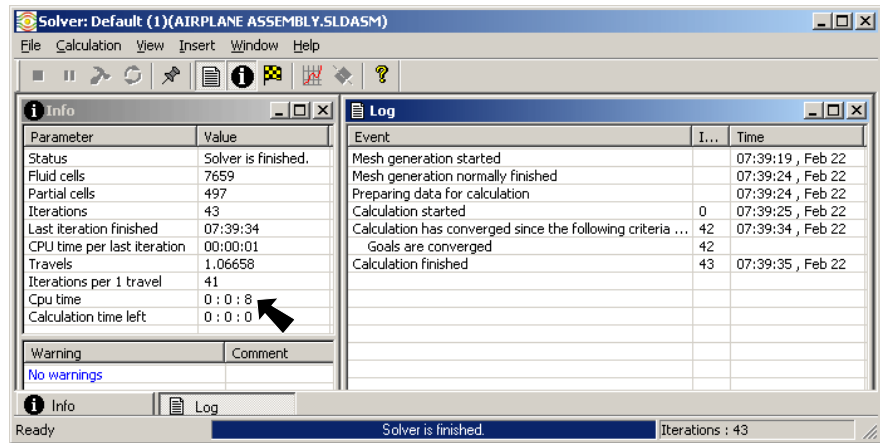

Fig. 17
Step 1. In the Solver dialog box you can view Calculation time left, **Fig. 17**. The CPU time runs around 1-4 minutes depending on airplane design and computer.